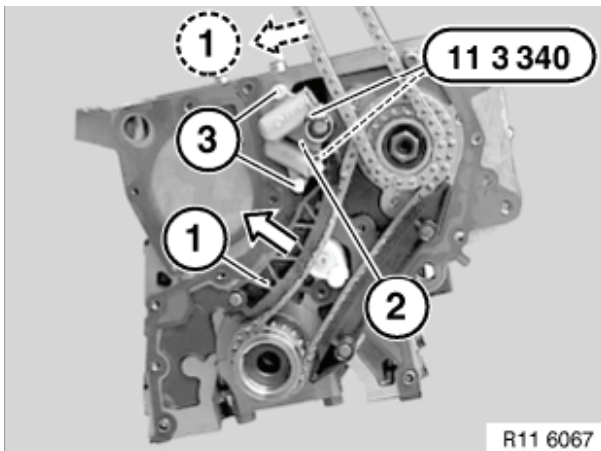

Figure 5-88
2. Press both tensioner rails (**Figure 5-88, (1)**) in direction of arrow. Insert special tool OEM No. 11 3 340 in designated openings in chain tensioner (**Figure 5-88, (2)**).
3. Remove bolts (**Figure 5-88, (3)**).
4. Remove chain tensioner (**Figure 5-88, (2)**).